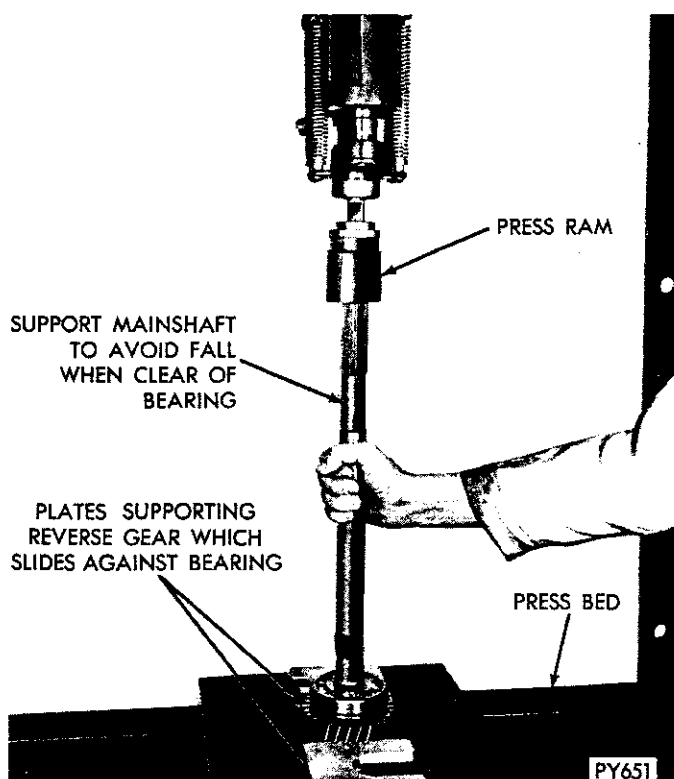

Fig. 19—Using Press to Remove Mainshaft Bearing
- (6) Set up parts in arbor press to force bearing off mainshaft. By supporting front side of reverse gear it can push the bearing off shaft as pressure is applied to shaft (Fig. 19). When bearing clears shaft, don't let parts drop through.